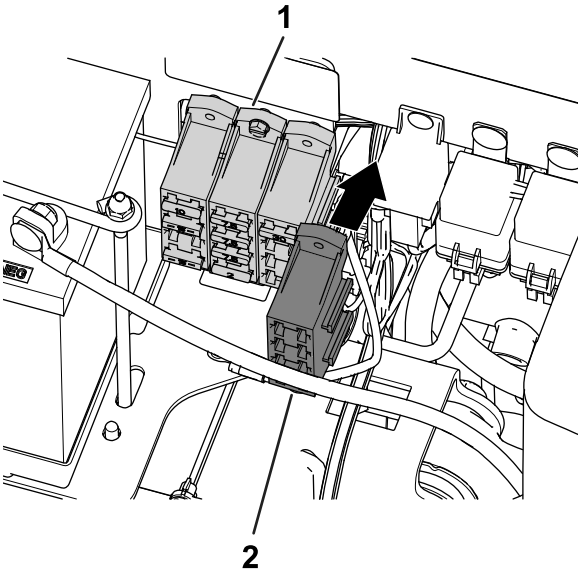

Figure 7
2. Install the kit fuse block to the machine fuse block (Figure 7).